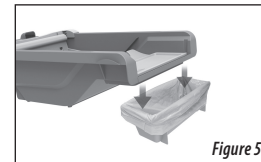
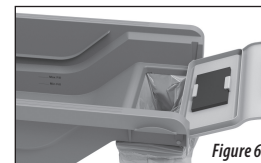

Figure 5
Figure 6
6. Slide the Waste Receptacle (with bag) into place as shown in Figure 5. Line the Receptacle up under the opening so that no waste will miss the Receptacle (see Fig. 6).